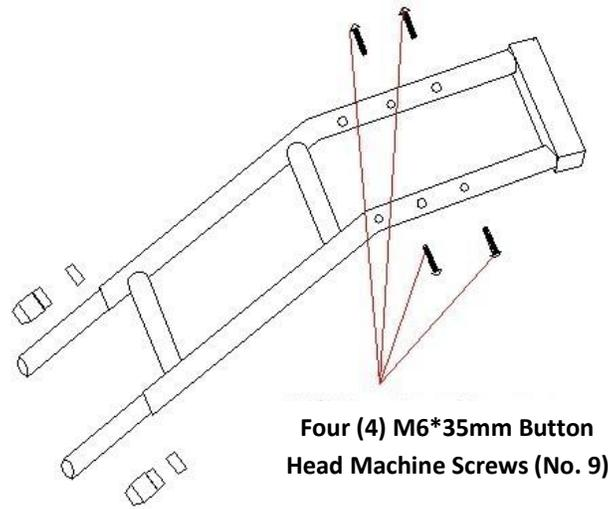

Figure 4: Attaching Table to Support Structure
Attach cockpit table to the support structure with four (4) M6*35mm Button Head Machine Screws (No. 9) and four (4) M6 Self-Locking Nuts (No. 4). Note that there are two positions (as shown in Figure 4) in which the table can be mounted depending on whether you want the table closer or farther away from the monitors. Also, ensure that holes drilled along the edge of the table are facing towards the seat. These holes are pre-drilled for attaching the Volair Sim Avionics Panel, Logitech (Saitek) Pro Flight Yoke, Logitech Steering Wheel, Thrustmaster T500RS Steering Wheel, and Logitech (Saitek) Pro Flight Accessories (on left and right sides of the yoke) to table.